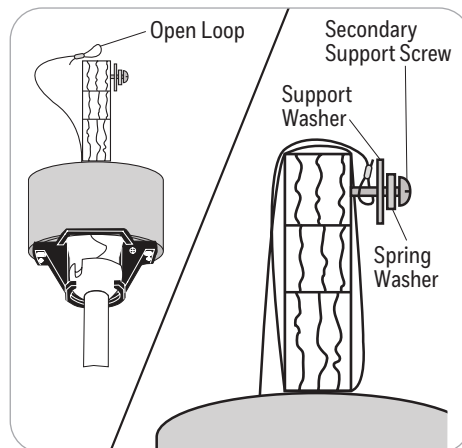

Figure 4.2
- Install secondary support screw, spring washer and support washer partly into the side of the brace installed in the ceiling. Then loop the braided cable up and over the ceiling brace and place the open loop of the braided cable around the secondary support screw. **Note:** The ceiling support brace may not be accessible from below. If not, it must be accessed from above. **Important:** The braided cable must make a complete circle around the support brace to secure the fan (Figure 4.2).